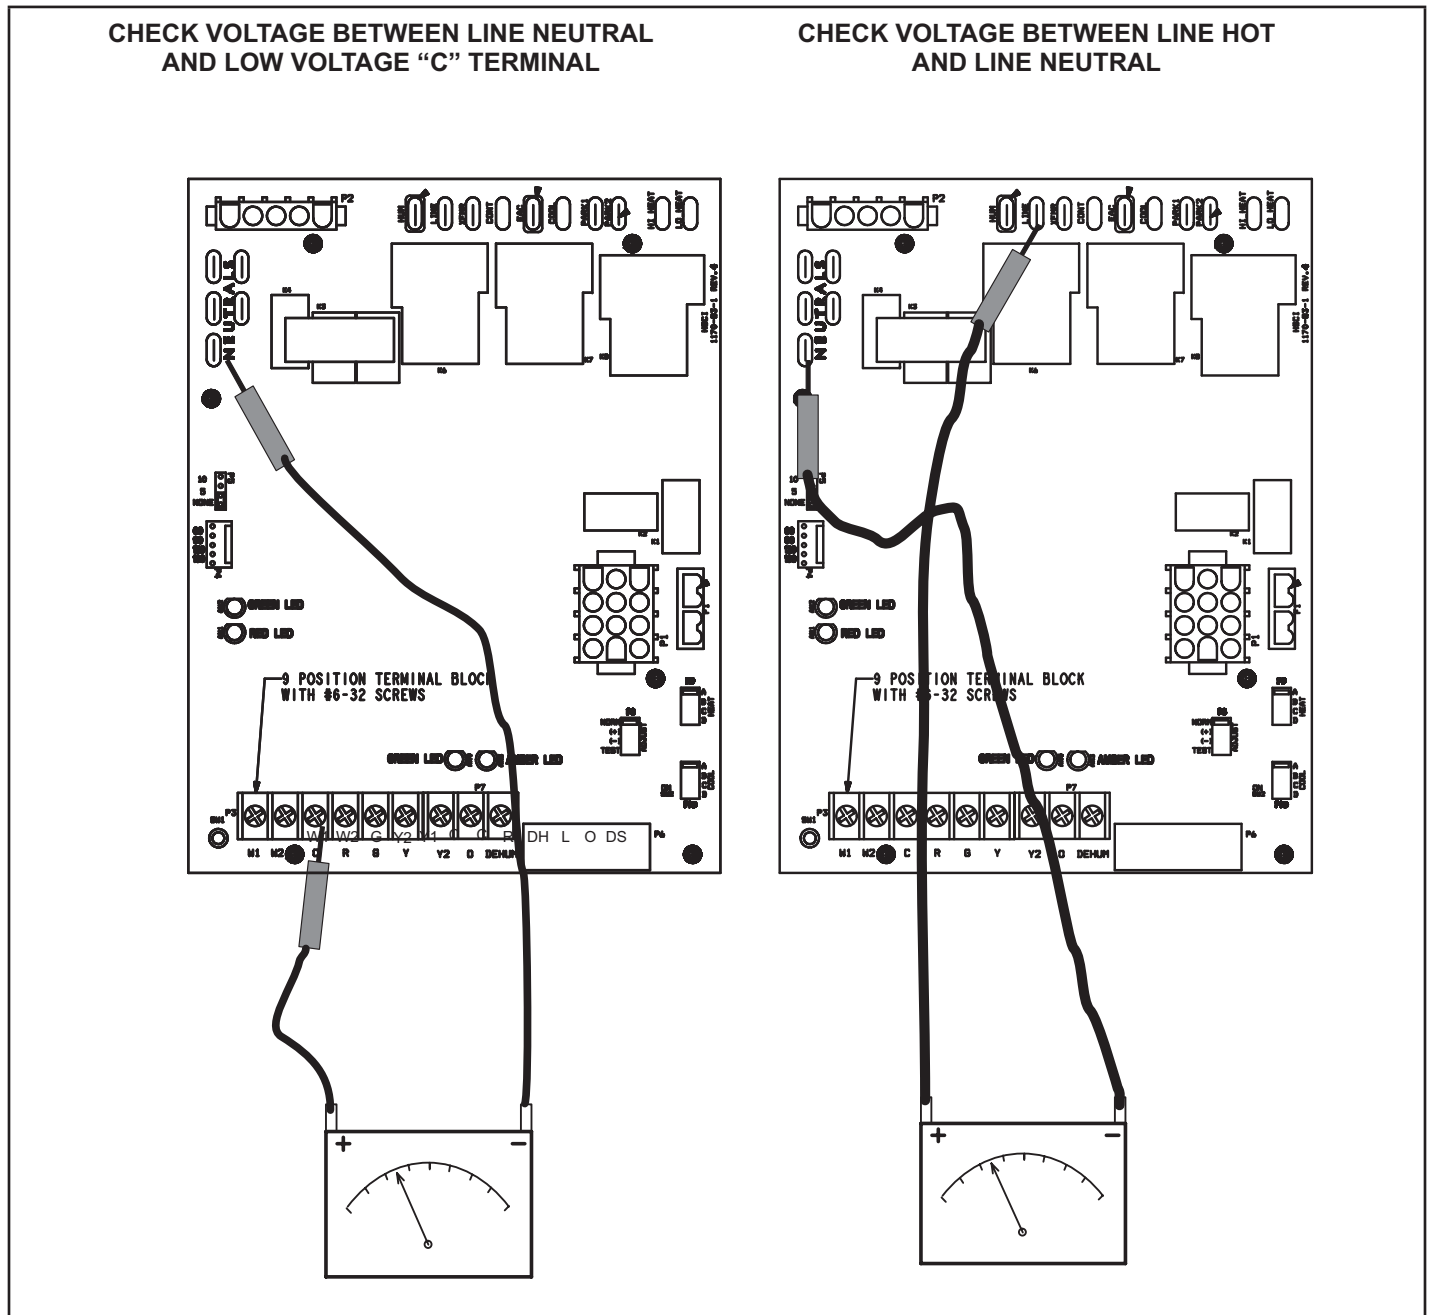

FIGURE 52
- 1 - Measure the AC voltage between Line Neutral (spade terminals) and "C" terminal (low voltage terminal block) on the integrated control. See FIGURE 52. A wide variation in the voltage between Line Neutral and "C" as a function of load indicates a poor or partial ground. Compare the readings to the table below. If the readings exceed the maximum shown in TABLE 22, make repairs before operating the furnace.
- 2 - In addition, measure the AC voltage from Line Hot to Line Neutral (spade terminals) on the integrated control. See FIGURE 52. This voltage should be in the range of 97 to 132 Vac.